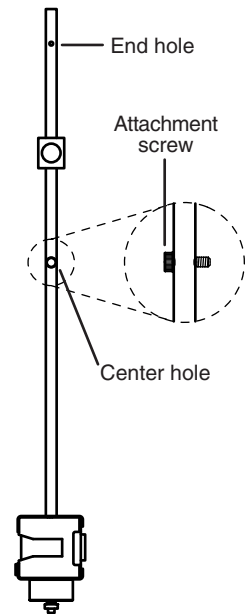

Figure 3: Attachment screw loosely captured in center hole
3. Select one of the holes on the pendulum rod: either the center hole or the end hole. If you will be using the end hole, remove the counterweight. Also select a side of the pendulum: either the catcher or the bumper. Thread the attachment screw into the hole as shown in Figure 3. Screw it all the way in so it is loosely captured.